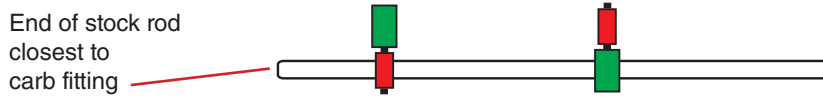

Figure 2
- Slide slip connectors over stock throttle rod as shown in Fig. 2.